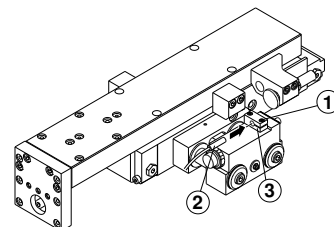

fig 4
#### Adjustment of limit switch (ES), fig 4
1. Loosen clamping screws (1).
2. Slide limit switch (2) from rear into stop block guide (3) on intermediate stop up as far as stop.
3. Retighten clamping screw (1).